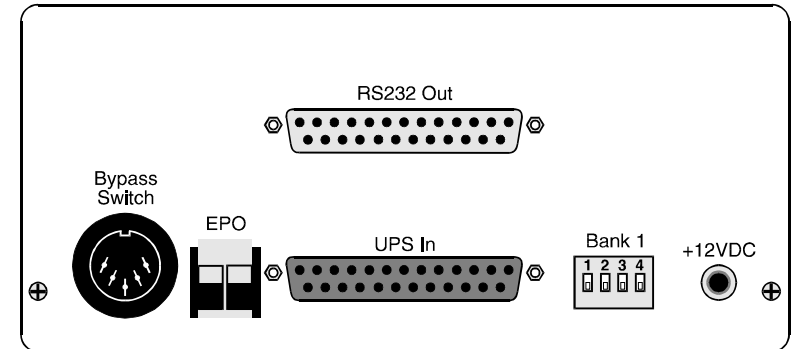
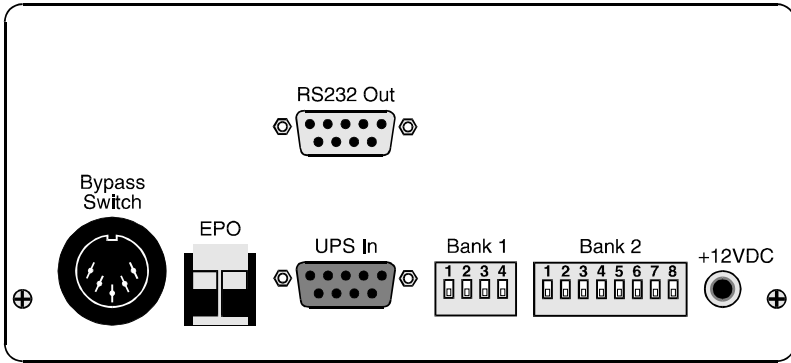
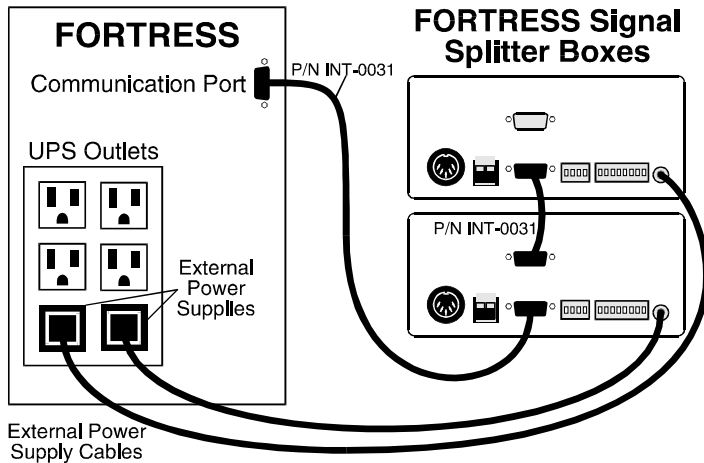

Figure 4
Figure 11
Figure 18
2. Connect the female end of the supplied cable (INT-0030) to the *UPS In* port on the FERRUPS Signal Splitter Box (see Figure 4, page 5, for the location of the *UPS In* port).
The *RS232 Out* port (see Figure 4 for location) can be used to connect
2. Connect the other end of the cable to the *Bypass Switch* connection on the FERRUPS Signal Splitter Box (see Figure 4, page 5, for location of connector).
Follow the instructions below to connect your EPO switch(es). See Figure 4 on page 5 or Figure 11 on page 12 for the location of the EPO connector.
After the automatic shutdown sequences for your systems are completed, you may want to shut down the FERRUPS to conserve its batteries. Using DIP switch settings, the FERRUPS Signal Splitter Box lets you determine which one of your systems sends the "power off" signal to the UPS (see Figure 4, page 5, for location of DIP switches).
2. Connect the female end of the supplied cable (INT-0031) to the *UPS In* port on the Fortress Signal Splitter Box (see Figure 11, page 12, for location of port).
3. Connect the provided 12VDC power supply to the +12VDC jack on the Signal Splitter Box (see Figure 11, page 12, for location of jack). **You must plug the 12VDC power supply into the Fortress UPS.**
The *RS232 Out* port (see Figure 11, page 12, for location) may be used to connect
Refer to Figure 18 and follow the steps below to cascade your Fortress Signal Splitter Boxes. Figure 11 on page 12 shows the locations of the ports on the Splitter Box.
4. Connect the provided 12VDC power supply to the power supply jack on the Signal Splitter (see Figure 18).